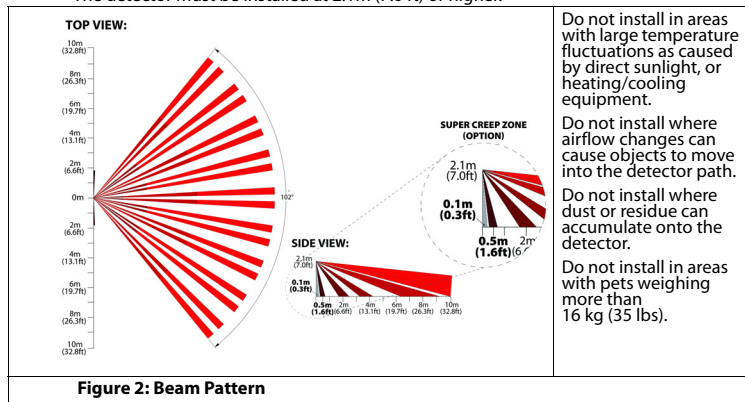

Figure 2: Beam Pattern
Step 1: Select detector location using the Figure 2 as a guide. The detector must be installed at 2.1m (7.0 ft) or higher.